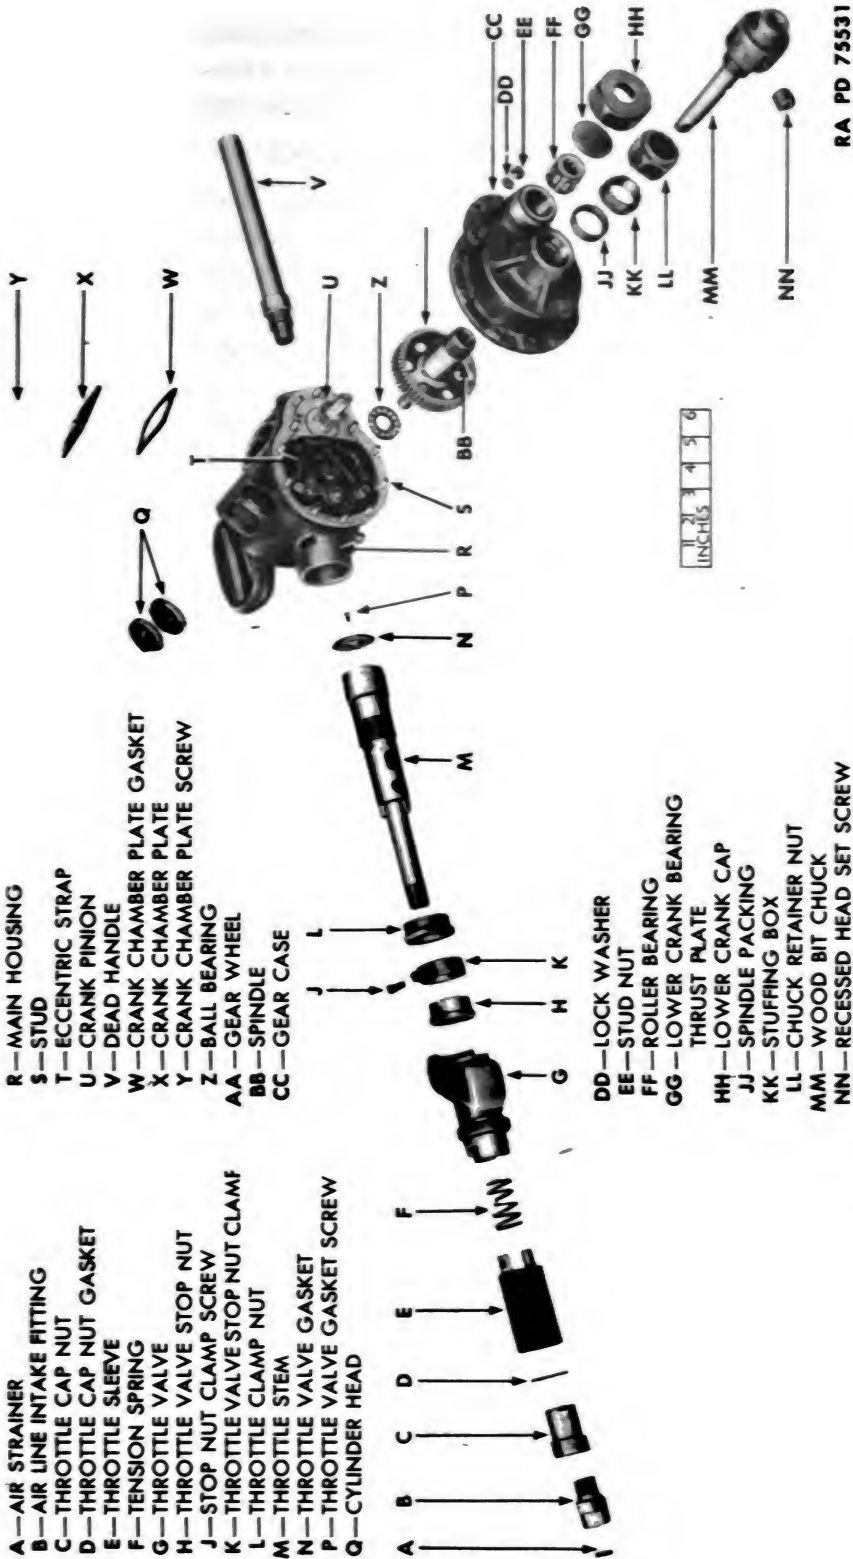

Figure 59 — Pneumatic Boring Machine — Exploded View
a. Tool Lacks Power.	(1) Insufficient supply of air.	(1) Attach tool to air source with at least 90-pound per square inch pressure.
(2) Air hoses too small.	(2) Use air hoses with at least $\frac{3}{4}$ -inch inside diameter.
(3) Dirt, scale, rubber particles, rust, water, or other foreign substance in air hose or tool.	(3) Clean hoses by blowing air blast through them (par. 28). Disassemble, clean, and assemble tool (par. 30).
(4) Tool insufficiently lubricated.	(4) Lubricate boring machine (par. 32).
b. Impossible To Rotate Throttle Handle.	(1) Throttle valve stuck.	(1) Strike open exhaust end of throttle valve with fiber mallet. This will unseat valve seat. Hold valve off its seat and pour OIL, engine, SAE 10, through exhaust opening to lubricate seat. If valve sticks frequently, disassemble, (par. 30) determine, and correct cause.
c. Tool Does Not Start When Throttle Handle Is Rotated.	(1) Rust, mud, or other dirt in tool.	(1) Disassemble tool (par. 30) and clean with SOLVENT, dry-cleaning. Be sure all air passages are open. Assemble (par. 30) and lubricate (par. 32) tool.
a. Disassembly (fig. 59).
(1) REMOVE AND DISASSEMBLE THROTTLE HANDLE.
b. Assembly (fig. 59).
(1) INSTALL GEAR CASE AND RELATED PARTS.